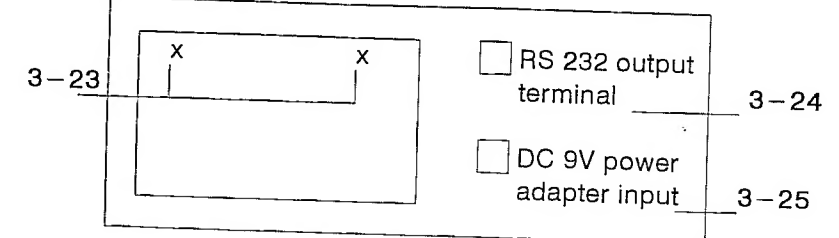

Fig. 1
- 1) Push the " Power Switch " ( 3-13, Fig. 1 ), all the display segments will bright then show 0 or some random values. Now the instrument is ready for measurement.
- 2) Push the " Range Switch " ( 3-15, 3-16, 3-17, Fig. 1 ) to the " 10 MHz ", " 500 MHz " or " 2.7 GHz " position according to the measurement required.
- 3) a. Input the measured signal to Channel A/BNC socket ( 3-2, Fig. 1 ) via. BNC cable ( optional, PB-21 or BB-22 ) if the measured frequency is within 10 MHz.
- b. Input the measured signal to Channel B/N type socket ( 3-3, Fig. 1 ) via N type cable ( optional, NN-23 ) if the measured frequency is within 10 MHz to 500 MHz.
- c. Input the measured signal to Channel C/N type socket ( 3-4, Fig. 1 ) via N type cable ( optional, NN-23 ) if the measured frequency is within 100 MHz to 2700 MHz.
- 4) According the different input range, select the Sensitivity Switch ( 3-19, 3-20, 3-21, Fig. 1 ) to the " HIGH " ( high sensitivity ) or " NORMAL " ( normal sensitivity ) position.
- 5) Slide the Gate Time Switch ( 3-18, Fig. 1 ) to the " FAST " or " SLOW " position to determine the convenient sampling time & display resolution.
- 6) The display unit is Hz for 10 MHz range. The display unit is MHz for 500 & 2.7 GHz range. The Gate Indicator ( 3-22, Fig. 1 ) will be flashed one for each sampling time passed.
- \* If select to " SLOW " position, then push The RESO. button ( 3-10, Fig. 1 ) at once 3 times will result 3 kinds Sampling Time & Resolution combination. For more details please see the following table :
During the measurement, it will hold the display values, if push the " HOLD Button " ( 3-8, Fig. 1 ) at once.
- 1) During the measurement, the circuit will memorize the last measured values if push the " REL. Button " ( 3-9, Fig. 1 ) at once, then LCD will show "0" & a "REL" marker appear on the right down corner.
- 1) Input the measured signal to Channel A/BNC socket ( 3-2, Fig. 1 ) via. BNC cable ( optional, PB-21 or BB-22 )
- 2) Select the " Period Switch " ( 3-14, Fig. 1 ) Select the " 10 MHz range Sensitivity Switch " Switch ( 3-19, Fig. 1 ) to the " HIGH " ( high sensitivity ) or " NORMAL " ( normal sensitivity ) position.
- 3) Slide the Gate Time Switch ( 3-18, Fig. 1 ) to the " FAST " or " SLOW " position to determine the convenient sampling time & display resolution.